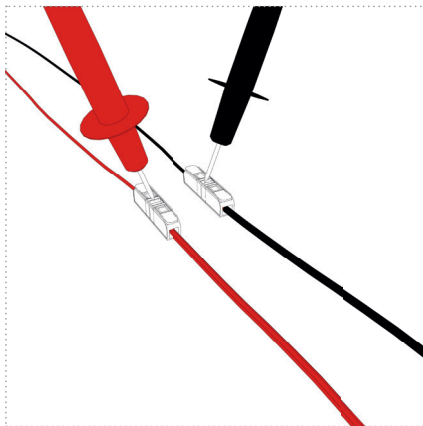

Figure 22
5. Reinsert/turn on the fuse for the UV unit's circuit and check for the correct mains voltage at the test openings of the connection terminals (Figure 22).
In winter and at sub-zero temperatures, ensure that the water in the UV unit and in the entire water system does not freeze. If this cannot be guaranteed, open all water consumers/fittings and let the pump run until no more water comes out of the fittings. For safety, now remove the hose on the water inlet side to the UV unit so that any water residues can drain out (see Figure 22 or *4.3.4 Releasing Push-In Connectors (p.50)*). Place a towel or container under the UV unit for this purpose.